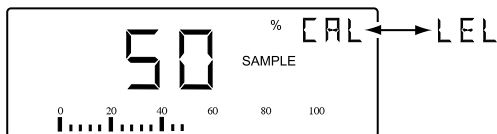

Fig. B-7 50% LEL Display
9) The instrument display will now return to CAL mode display as shown in Figure B-7.